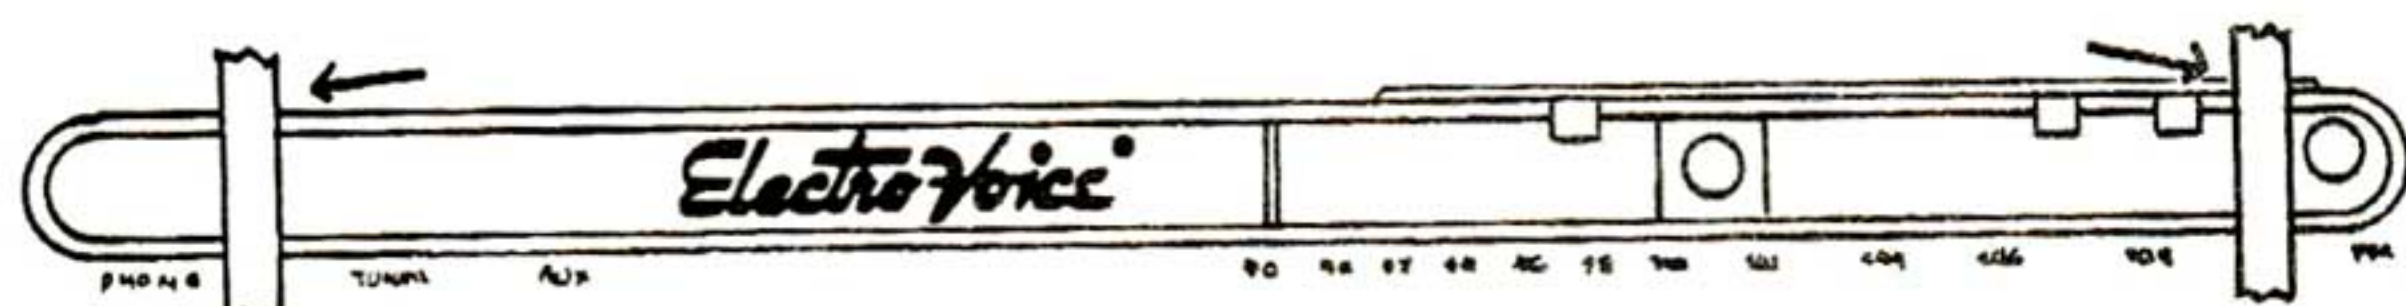

Figure 4
3. Place a piece of masking or electrical tape across each end of the plastic window to keep it in place within the front panel. As the plastic window is not permanently attached to the front panel, failure to apply tape as directed above will result in possible loss of the station markers. (See figure 4 below)